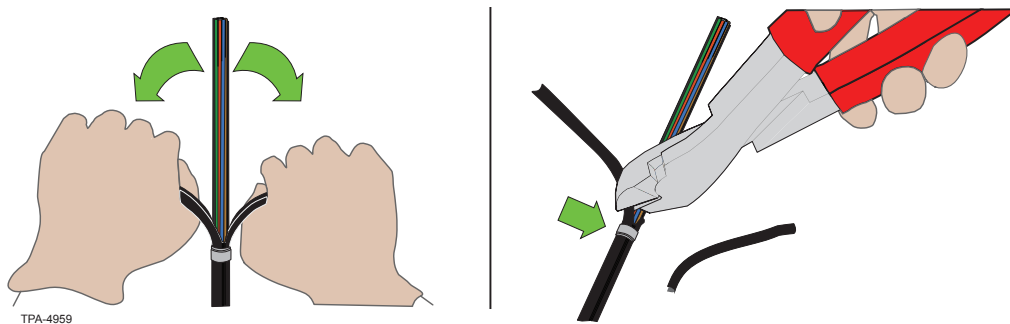

Figure 6
**Step 7:** Continue to remove the jacket by pulling both sides down to the tape mark and remove the jacket with side-cutter or small snips (Figure 6).